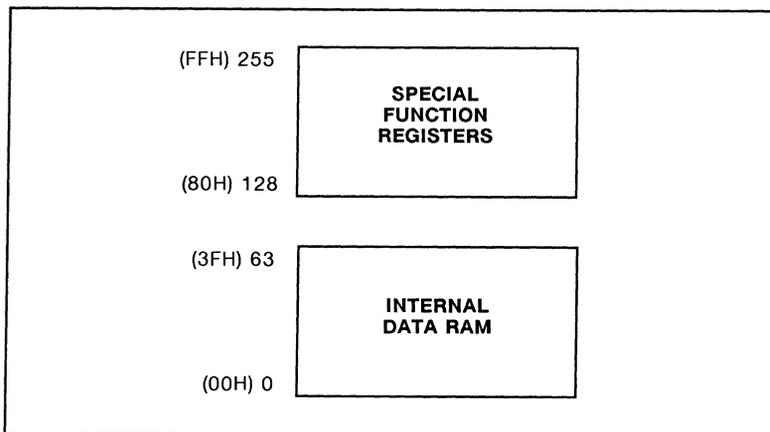

Figure 61. Memory Map
The central processing unit (CPU) manipulates operands in 2 address spaces as shown in Figure 61. The part's internal memory space consists of 2K bytes of program memory, and 64 bytes of data RAM overlapped with the 128 byte special function register area. The differences from the 80C51 are in RAM size (64 bytes vs 128 bytes), in external RAM access (not available on the 83C751), in internal ROM size (2K bytes vs 4k bytes), and in external program memory expansion (not available on the 83C751). The 128 byte special function register (SFR) space is accessed as on the 80C51 with some of the registers having been changed to reflect changes in the 83C751 peripheral functions. The stack may be located anywhere in internal RAM by loading the 8-bit stack pointer (SP). It should be noted that stack depth is limited to 64 bytes, the amount of available RAM. A reset loads the stack pointer with 07F (which is pre-incremented on a PUSH instruction).